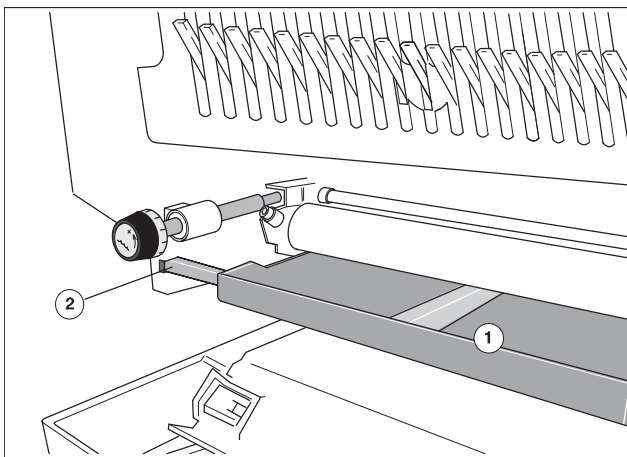

Fig. 22 Inserting the dampening solution pan
2. Push the dampening solution pan (Fig.22/1) under the dampening rollers onto the support post. In this process insert the lateral pins on the pan into the guide pieces on the side frame (Fig. 22/2).